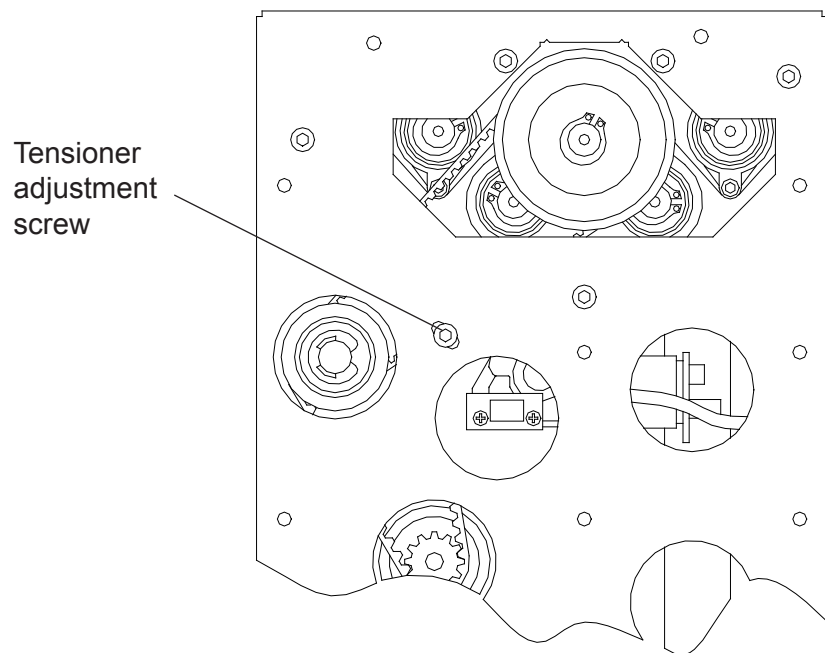

Fig. 12
5. Place the folder unit on a suitable bench or stand. The two drive belts are visible on the RH side, as shown in Fig. 12 below. To remove the outermost belt, slacken the tensioner adjustment screw and lift the belt out through the cutouts in the chassis. There is no tensioner on the innermost belt, and this should be slipped off the lower pulley and the belt removed through the cutouts. Fit the new belts and re-tension the outermost belt - it should be tight with no perceptible play.